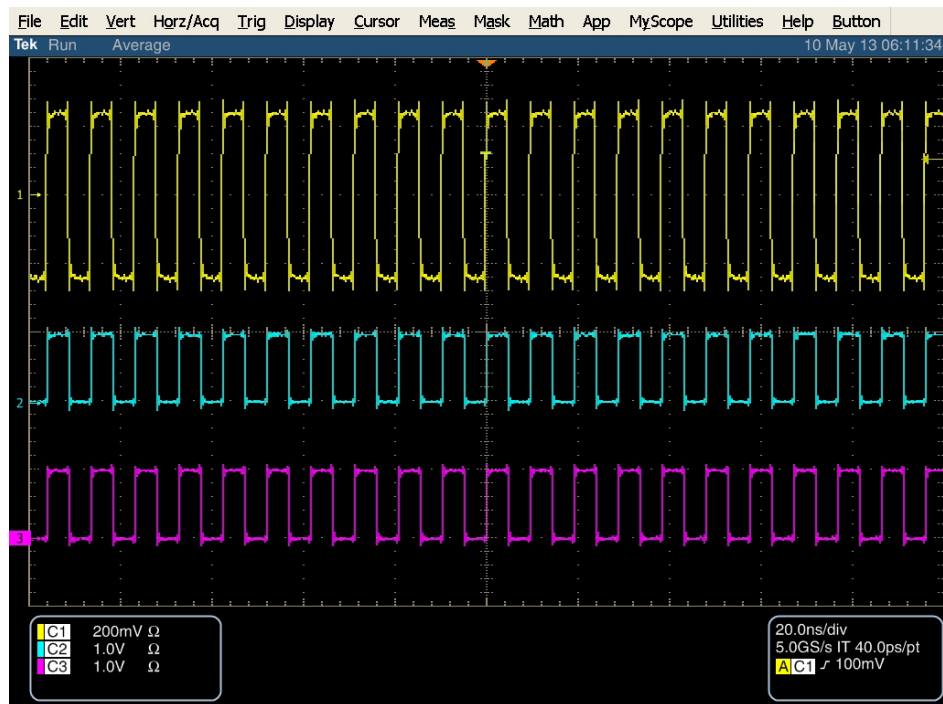

Figure 6: Output waveform from the channel, marker 1, and marker 2 connectors
16. Check that the Channel 1, Marker 1, and Marker 2 waveforms are properly displayed on the oscilloscope screen. (See Figure 6.)